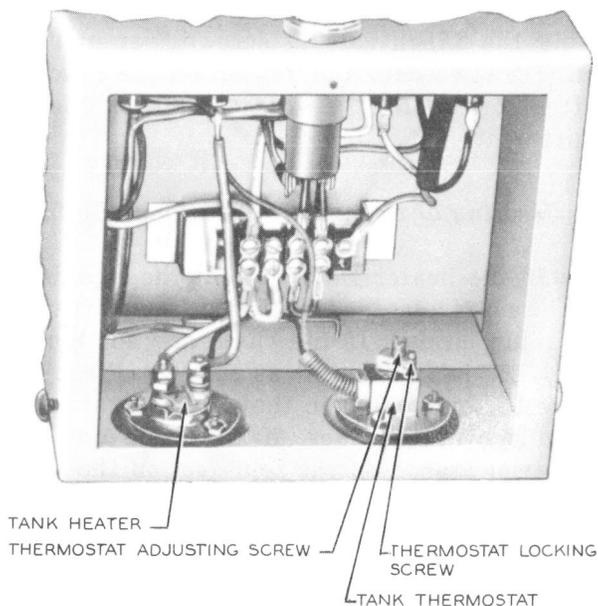

Fig. 2 — KS-14778 Photo Processor—Bottom View of Control Panel—Access Panel Removed
(2) If the liquids in the processor are heated but fail to reach the specified temperature in the required time the trouble is due either to improper adjustment of the tank thermostat or to a defective heater. Adjust the thermostat as covered in (3). If this fails to clear the trouble replace the heater.
(3) If the heater heats the liquids, but the temperature is outside the required limits, adjust the tank thermostat as follows. Disconnect the power cord and remove the access panel as covered in (1). Referring to Fig. 2, loosen the thermostat locking screw using the screwdriver of the No. 48 combination wrench and screwdriver. With the Stanley No. 2012 screwdriver, turn the thermostat adjusting screw as required to increase or decrease the temperature setting. One eighth turn of the screw changes the temperature setting approximately 10F. Because of differences in the thermostats which have been furnished on the photo processors, turning the adjusting screw clockwise in some cases increases and in other cases decreases the temperature setting. After changing the temperature setting, recheck the requirement.